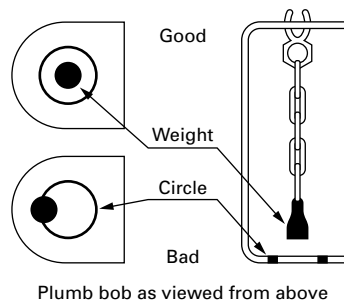

Fig. 13
- Make sure the position of the heater is level by using the plumb bob located at the right side of the heater. The plumb bob weight should be within the circle. If the plumb bob weight is not within the circle, adjust the heater legs until the plumb bob weight is within the red circle (See Fig. 13 & 14).